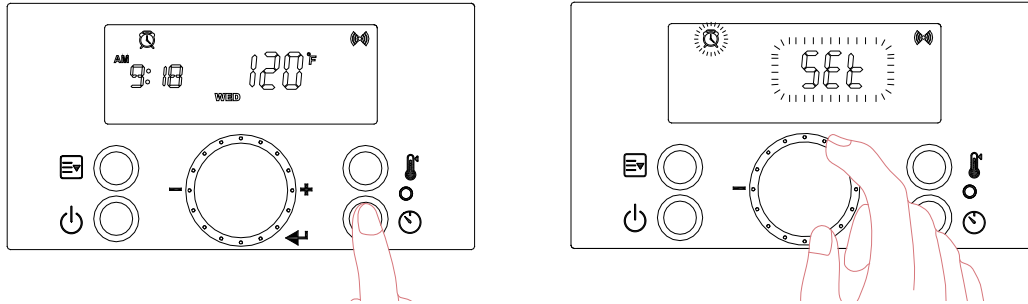

Figure 42 – Setting the Recirculation Run Time
- Turn the dial  until “SET” flashes on the screen. Press the  button at the “SET” screen to set the Recirculation Run Time. See Figure 42.